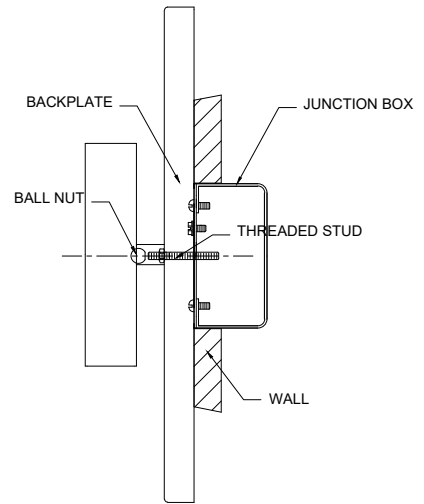

FIGURE-02
- Attach the backplate to the mounting ring and secure it with ball nuts. (See Figure-02)